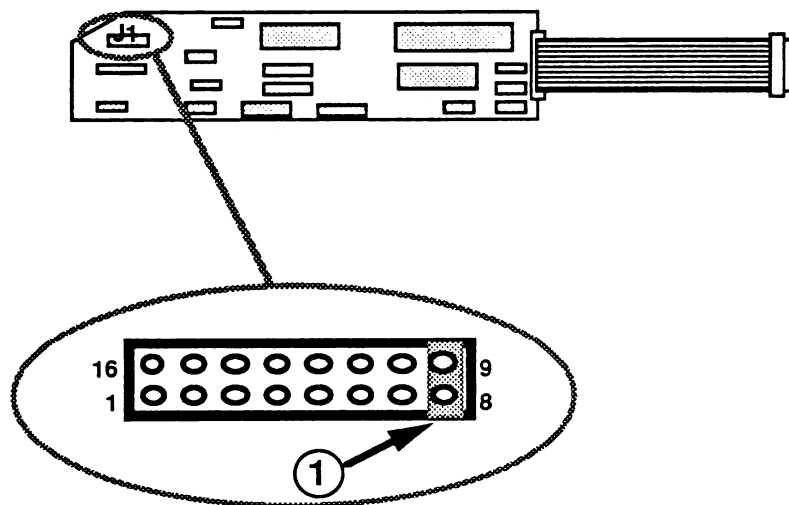

FIGURE 1
- IPL.3 Super Serial Card (Figure 1)
The SCSI Interface Card should be set up as shown in Figure 1. The jumper (connector) should be on pins 8 and 9 for top priority (see Figure 1, #1).